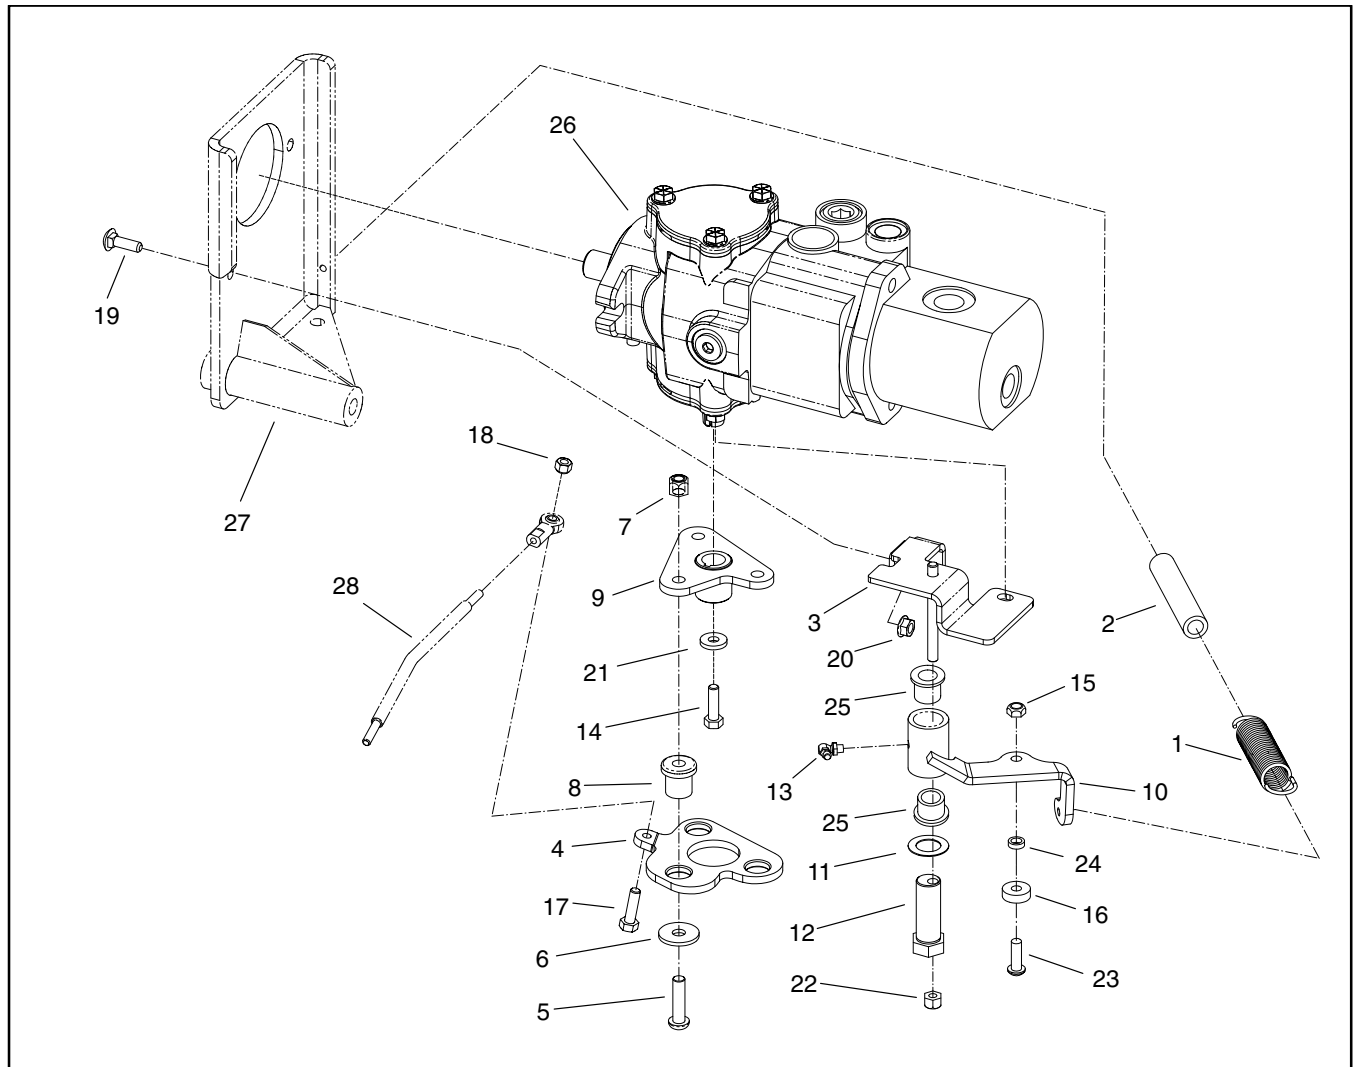

Figure 36
5. Remove pump lever and neutral arm assemblies (Fig. 36) from the piston pump as follows:
7. Install pump lever and neutral arm assemblies (Fig. 36) to the piston pump as follows: